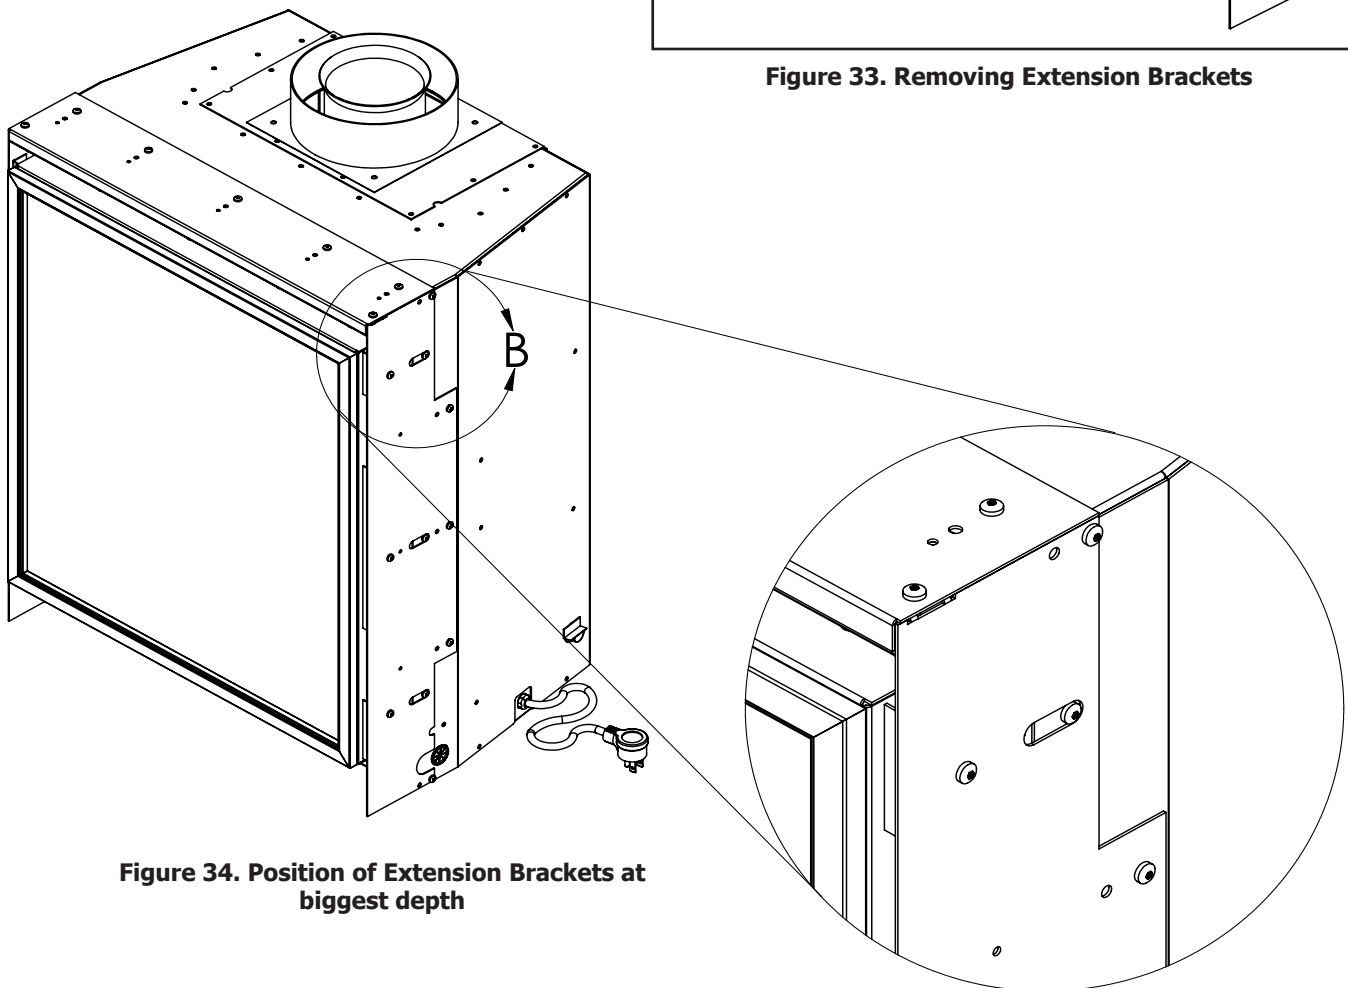

Figure 34. Position of Extension Brackets at biggest depth
4. If using the biggest depth (**3 or 4-sided minimal surround**), re-install the extension brackets in the position noted in the Figure 34.